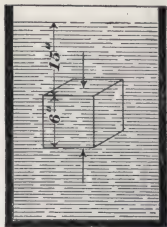

FIG. 11.
**26.** In Fig. 11 is shown a 6-inch cube entirely submerged in water. The lateral pressures are equal and in opposite directions. The upward pressure acting on the lower surface of the cube is  $6 \times 6 \times 21 \times .03617$ ; the downward pressure acting on the top of the cube is  $6 \times 6 \times 15 \times .03617$ ; and the difference is  $6 \times 6 \times 6 \times .03617$ , which equals the volume of the cube in cubic inches times the weight of 1 cubic inch of water. That is, the upward pressure exceeds the downward pressure by the weight of a volume of water equal to the volume of the body.